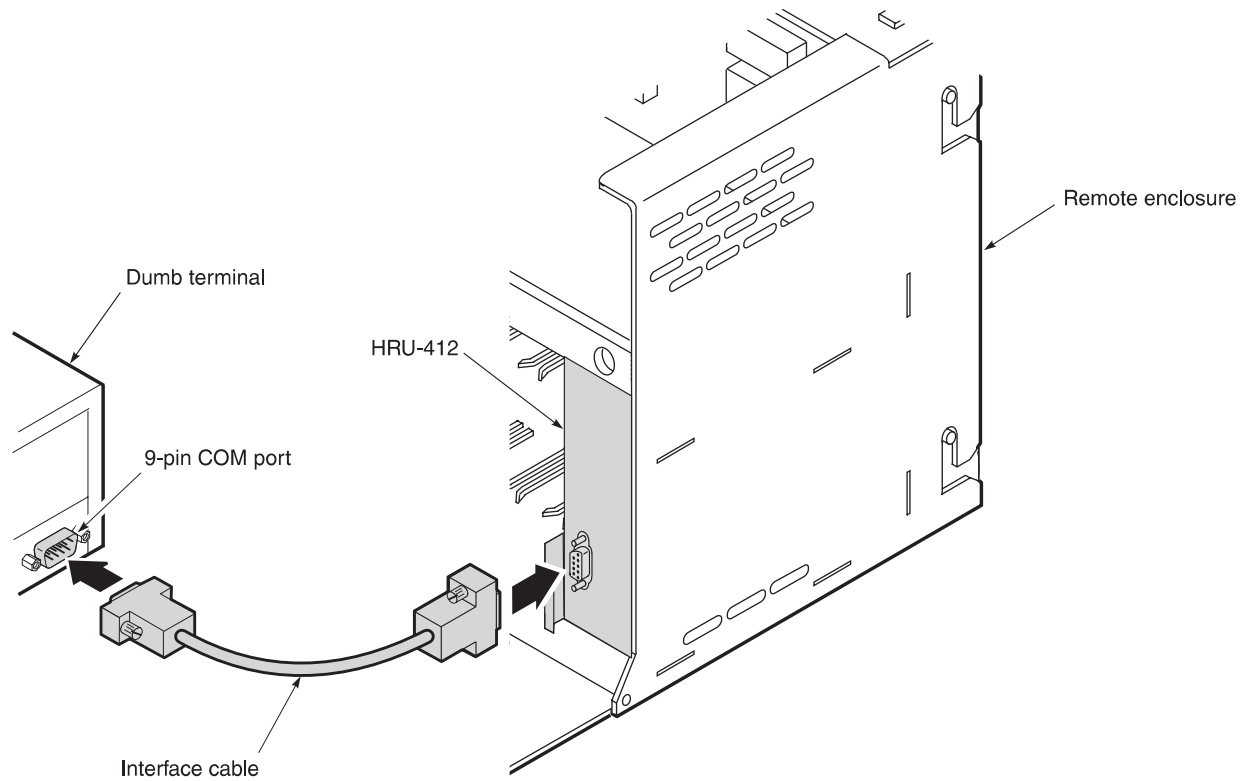

Figure 8. Connecting the HRU-412 to a Dumb Terminal
- 10.2** The dumb terminal is configured as DCE. To connect the HRU-412 to a dumb terminal, connect the RS-232 COM port of the dumb terminal to the HRU-412 front-panel RS-232 connector using a serial interface cable (Figure 8).